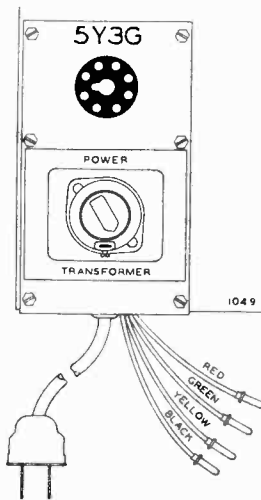

FIG. 2 — MODEL 709 A. C. POWER UNIT
5. Place the model 709 A.C. power unit (see Fig. 2) on the top of the radio chassis and plug the four flexible leads into the pin jacks on the chassis connector strip.